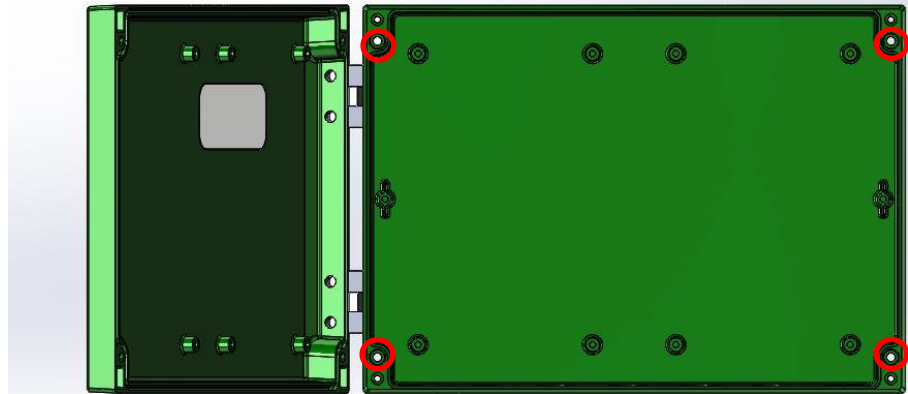

Figure 2-13. Holes for Wall or Panel Mounting
7. To access these four holes for mounting, locate the four Phillips head screws on the lid of the enclosure which prevent the lid from opening. Unscrew the four screws and open the hinged lid to expose the four mounting holes as shown in Figure 2-13.